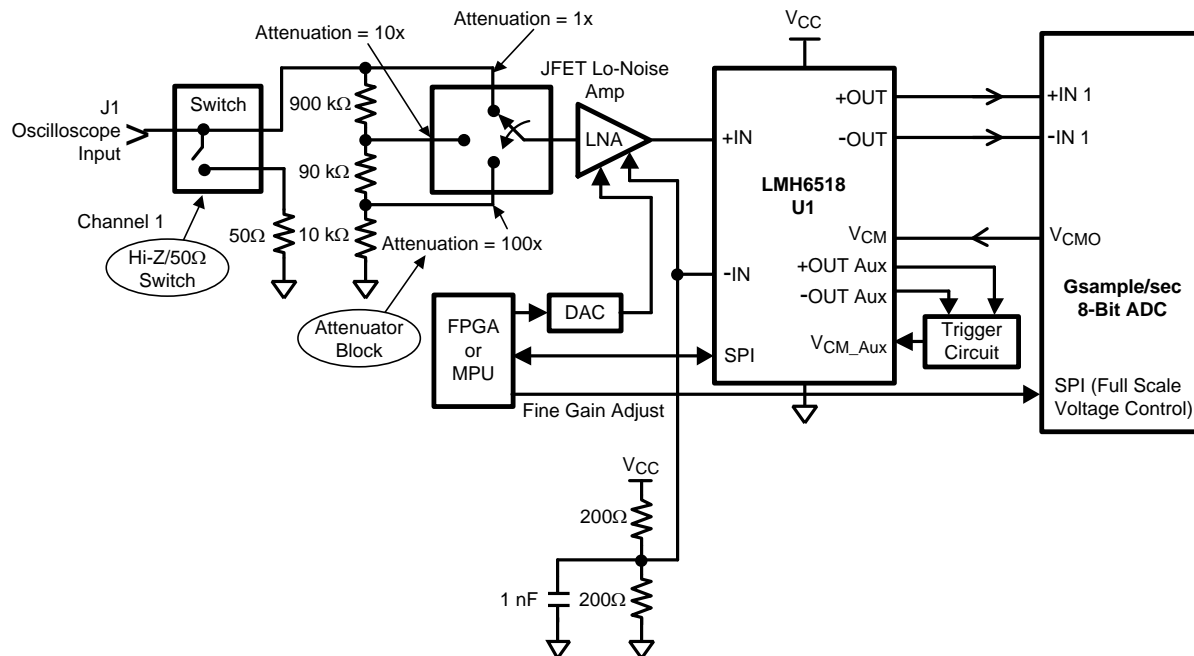

Figure 62. Digital Oscilloscope Front-End
- Scope front end noise (Front-end attenuator + scope probe Hi-Z buffer which is discussed later in this document and shown in Figure 62)
From Figure 62, the signal path consists of the input impedance switch, the attenuator switch, Low Noise Amplifier (LNA, JFET amplifier) to drive the LMH6518 input (+IN), and the DAC to provide offset adjust. The LNA must have the following characteristics:
- Low Noise ($<0.98 \text{ nV}/\sqrt{\text{Hz}}$) to reduce the impact on the LMH6518 Noise Figure. Note that Figure 62 does not show the necessary capacitors across the resistors in the front-end attenuators (see Figure 71). These capacitors provide frequency response compensation and limit the noise contribution from the resistors so that they do not impact the signal path noise. For more information about front-end attenuator design, including frequency compensation, see REFERENCE for additional resources.
Here is the schematic drawing for a possible implementation of the LNA buffer shown in Figure 62: